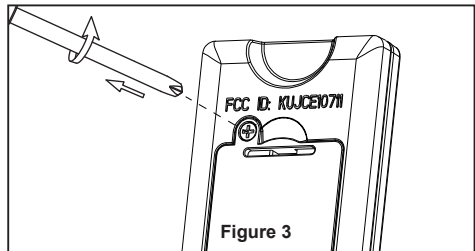

Figure 3
- ☐ 3. Remove the battery cover from remote control by screwdriver and retain the screw for later. (Figure 3)